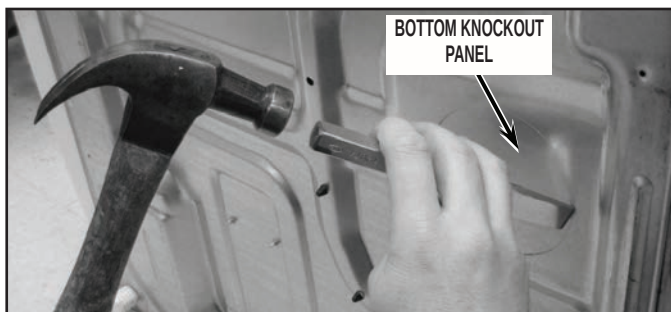

FIGURE 17
3. Using two (2) corner posts from the shipping carton or other protective material on the floor beside the dryer, gently lay dryer on left side.
4. Using either a 1/8" drill bit and drill or a cold chisel and hammer, remove the six (6) knockout retaining tabs around the edge. See *Figure 17*.